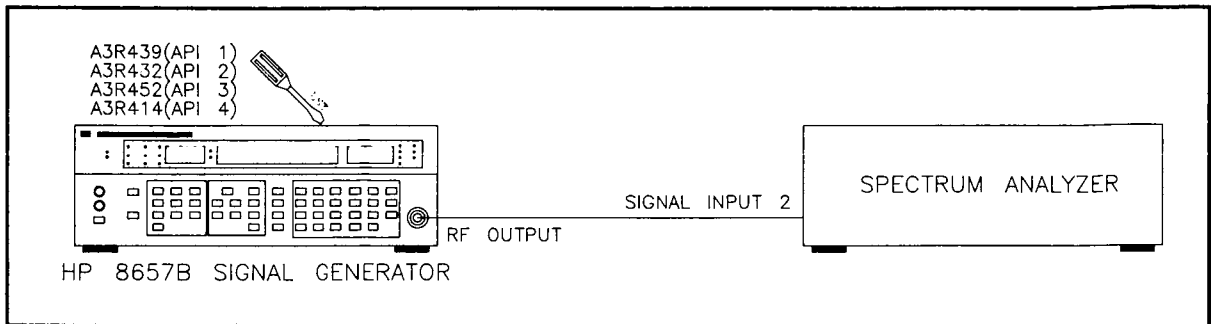

Figure 5-9. API 1, 2, 3 and 4 Adjustment Setup
3. Connect the RF OUTPUT of the HP 8657B to the spectrum analyzer as shown in Figure 5-9.